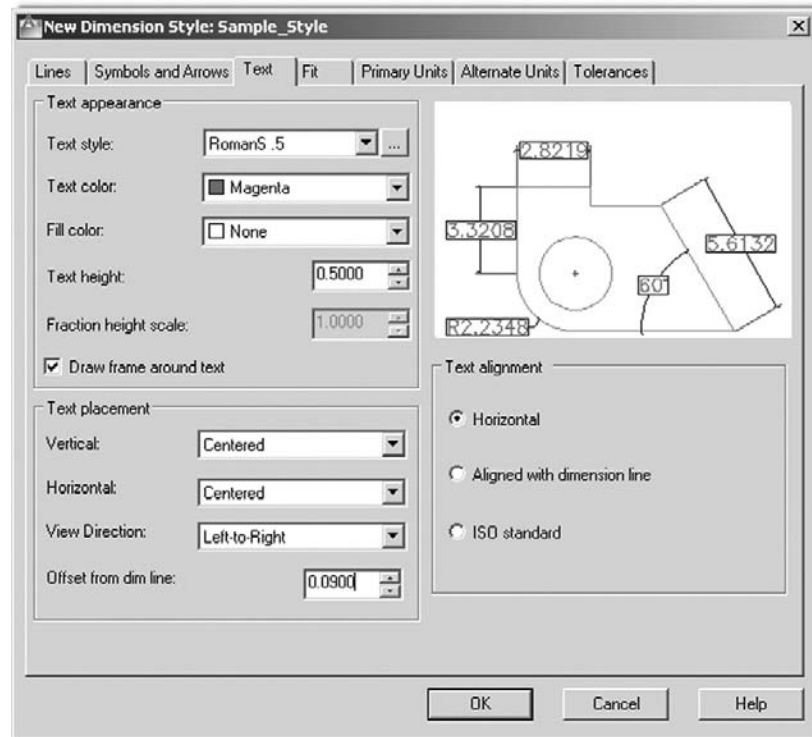

FIGURE 13.4
- **Text color:** Usually not set separately and remains “By Layer.” Here, for practice, we set it to the color Magenta as seen in Figure 13.4.
The Text placement category (bottom left) allows you to position the dimension value in every conceivable way near the rest of the dimension. You can place the values above, below, or centered on the dimension line. You can also move the values around the extension line, lining them up. Experiment with all the possible settings, observing the results in the preview window to the upper right. The default setting for both Vertical and Horizontal is Centered, as seen in Figure 13.4. View Direction: flips the values around and Offset from dim line: is best left alone and is adjusted as part of the overall scale settings.
With Text alignment (bottom right), the common default is Horizontal, because people generally do not want to tilt their heads to the side every time they check a dimension on a printout. Do try the other two options (aligned and ISO) to see what they do, though. Your Dimension Style dialog box should look like Figure 13.4.